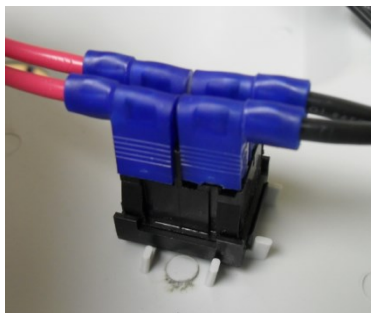

Figure 12: Proper orientation of foot switch.
19. Re-install the pushbutton switch into the underside of the base cover and secure it using the electrical switch nut. Ensure proper orientation of the bottom of the switch into the tabs as shown in Figure 12.